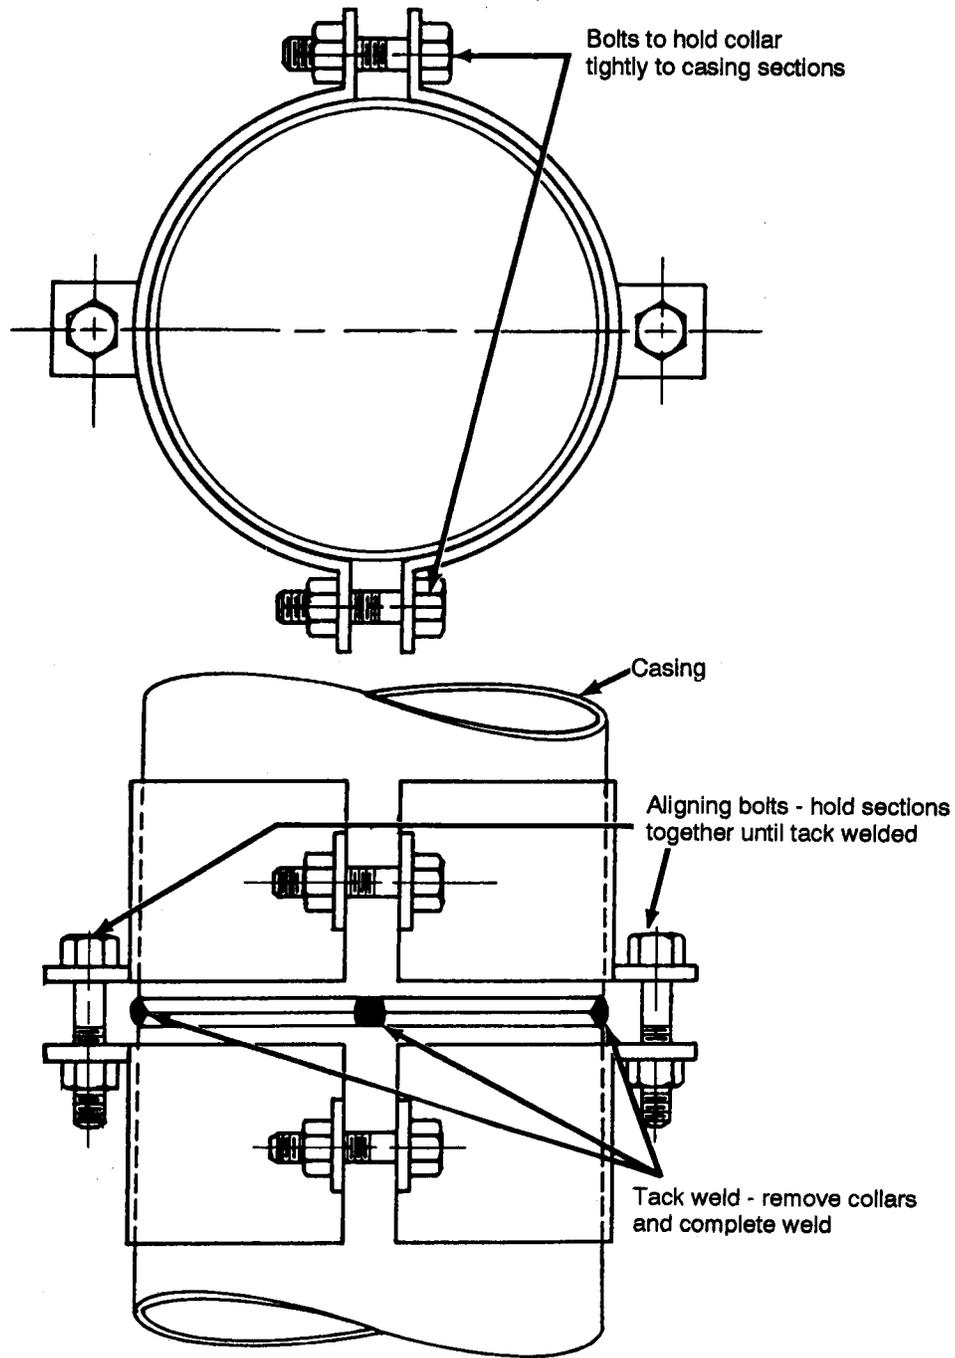

Figure 9-15. Alignment collar
(4) Casing. If you use unthreaded casing, butt-weld the casing lengths. Use an alignment collar for initial tack welding (Figure 9-15, page 9-12). The collar is used to align the pipe or casing to get a straight, tight joint. With the welded casing, you can drive a pipe string and possibly eliminate casing damage. Remove the collars when you complete tack welding.